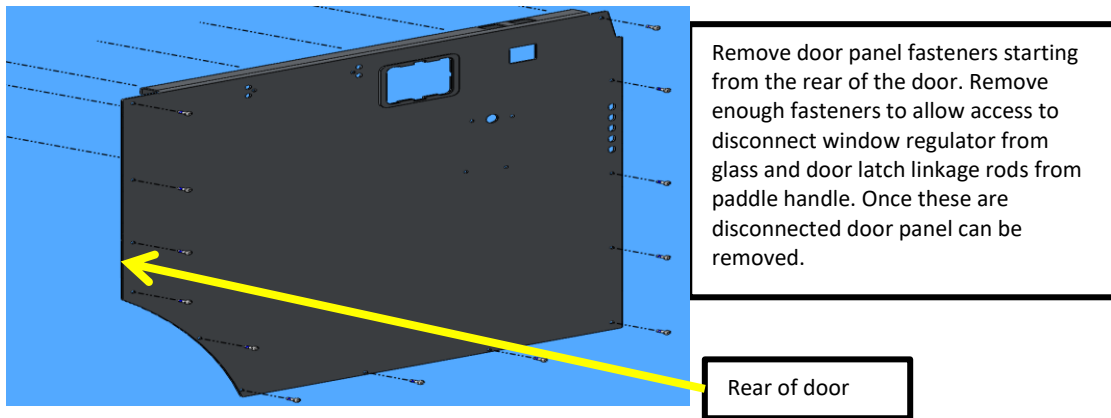

FIG. 7-1
4. Remove door panels. While removing the door panels the window regulator will need to be disconnected from the door glass. Refer to FIG. 7-1, FIG. 7-2 and FIG. 8-1.